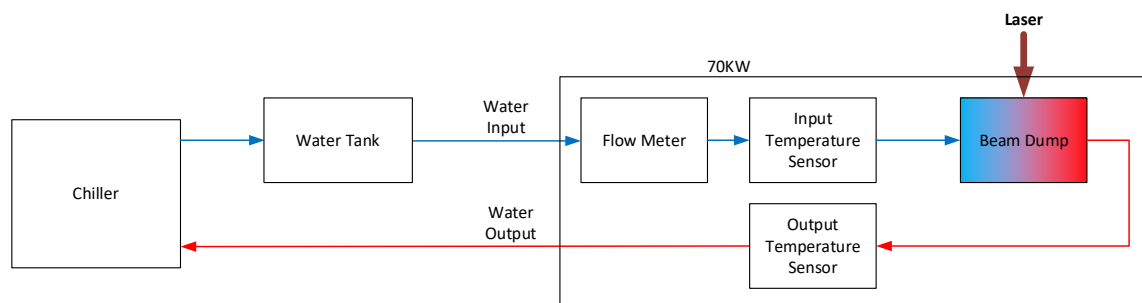

Figure 2. 70KW connected to chiller and water tank
- If the chiller cannot provide the required water temperature stability, a ballast water tank may be used to improve water temperature stability (see Figure 2).